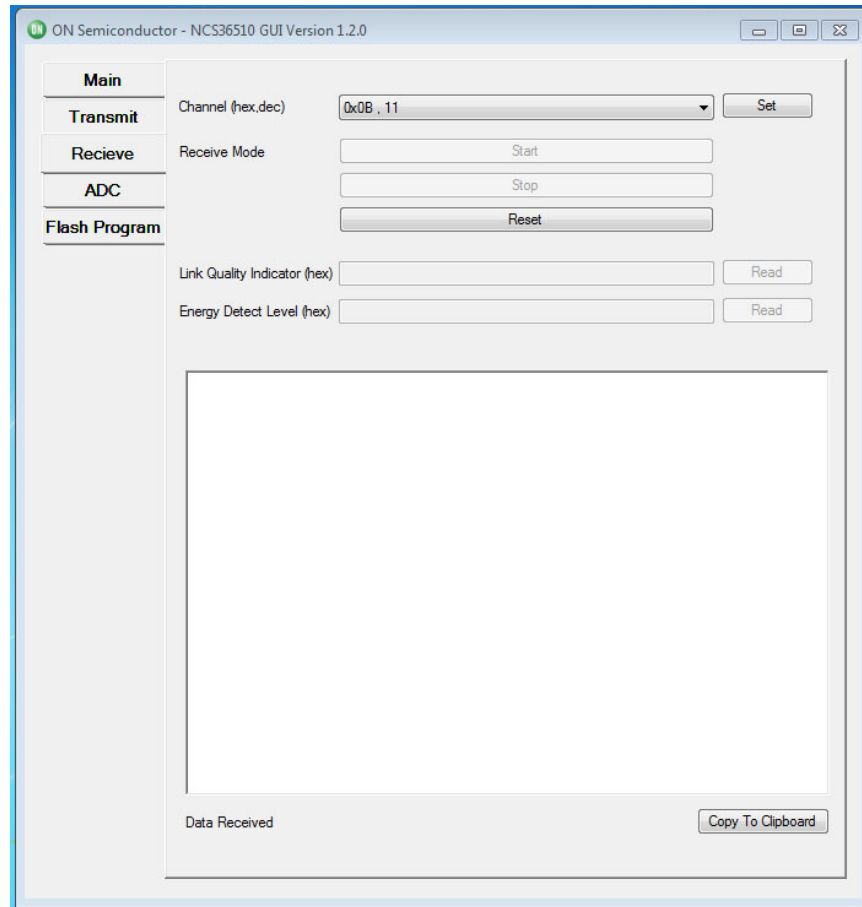

Figure 3. GUI–Receive–Interface
1. From the “Main” tab, select the “Receive” tab, the “Receive” page will look as shown in Figure 3.